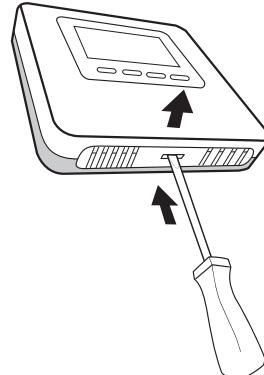

Figure 10 - Detach the Room Sensor Base
- Detach the room sensor's base by pressing down the tab at the bottom (Figure 10).